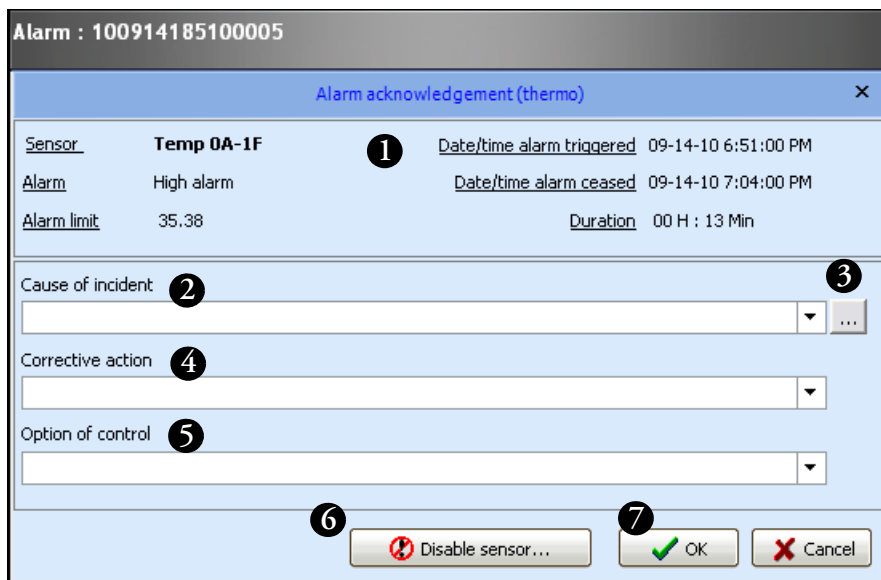

Figure 78. Entering description for alarm acknowledgement
1. The upper part of the screen (#1 in Figure 78) provides a summary of key information about the alarm, including the type of alarm, when it occurred and when it ended